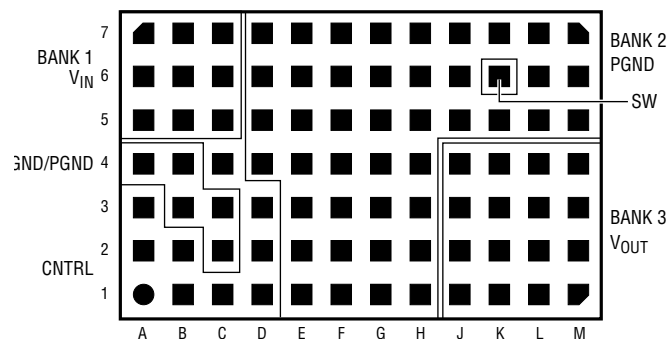

Figure 1. LGA Package
**SGND (B3, C2 and C3):** Signal Ground Pin. Return ground path for all analog and low power circuitry. Tie a single connection to PGND. See Figure 1 and Applications Information section for details.